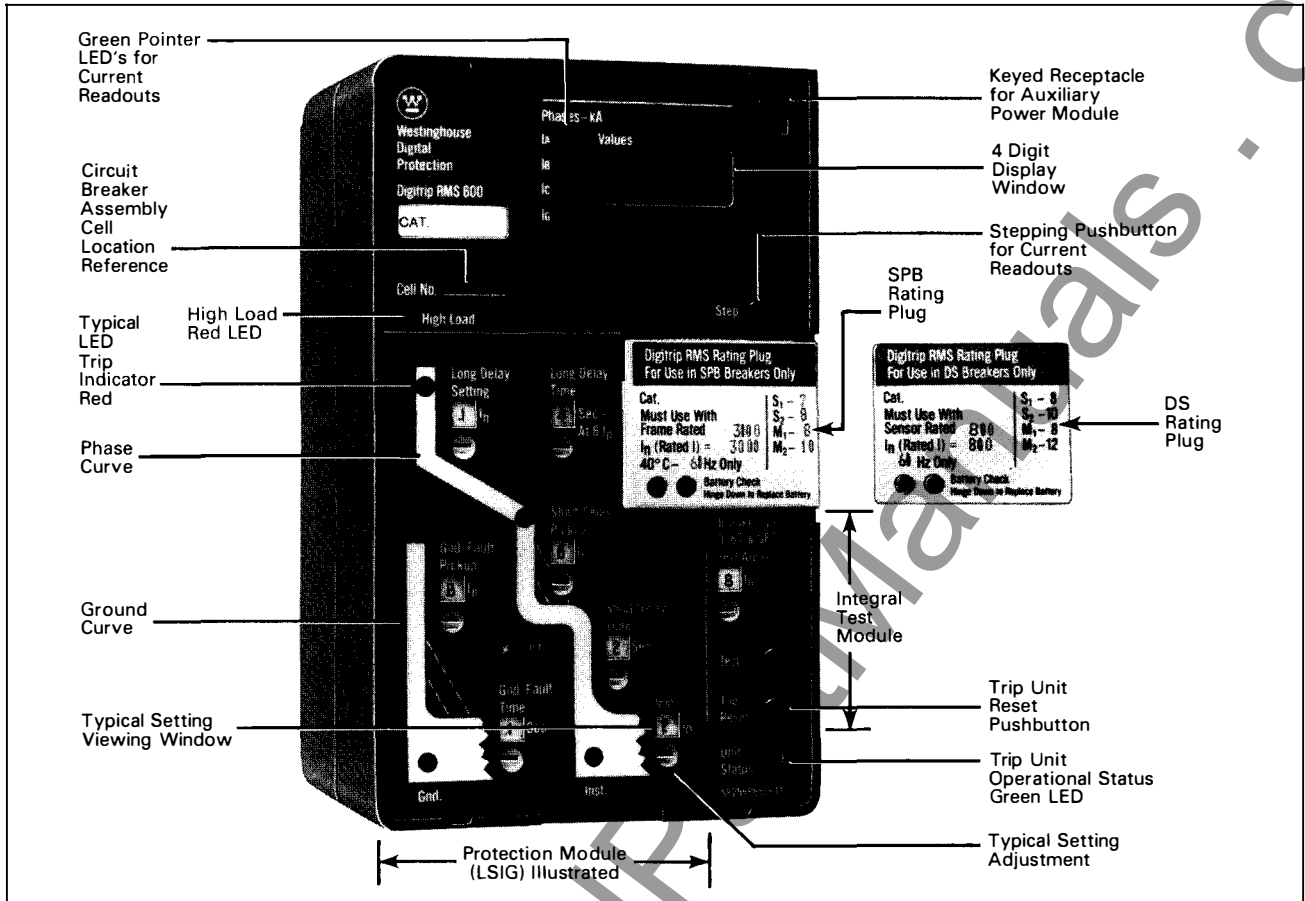

Fig. 1 Typical Digitrip RMS 600 Trip Unit with Rating Plug Installed
The Digitrip RMS 600 Trip Unit, illustrated in Fig. 1, is a micro-processor based type trip unit suitable for use in type SPB Systems Pow-R circuit breakers and types DS and DSL low voltage AC power circuit breakers and Series C® R-Frame molded case circuit breaker.
In addition to the protection function, the Digitrip RMS 600 Trip Unit is equipped with a four-digit, alpha-numeric readout display, three phase and one ground (when supplied) current pointer green LEDs along with a stepping pushbutton as illustrated in Figs. 1 and 2. A Power/Relay module is included to provide control power for operating the readout display and internally mounted signal relays. The signal relays provide contacts for three remote mode of trip indicators (long delay, short circuit, ground fault) and a High-Load remote alarm.
The Digitrip RMS 600 Trip Unit provides three basic functions: Protection, Information and Testing. A typical trip unit and rating plug are illustrated in Fig. 1. Individual product instruction leaflets referenced in Sections 9.1 and 9.2 illustrate typical Digitrip RMS Trip Units installed in specific breakers.
Red colored LEDs, as shown in Figs. 1 and 2, also indicate on the face of the trip unit the mode of trip of any automatic trip operation. As indicated in Fig. 2, each LED is strategically located in the related segment of the Time-Current curve depicted on the face of the trip unit. The mode of trip is identified by the segment of the Time-Current curve in which the LED is turned "On".
A green colored battery check, LED and test pushbutton, as shown in Figs. 1 and 5, are provided to check the status of the battery.
A green colored LED, as shown in Fig. 1, indicates the operational status of the trip unit. With external control power available at the Power/Relay module (or via the external Auxiliary Power module during bench testing operations), the green LED will flash "On" and "Off" once each second. A flashing green LED is an indication of a properly operating trip unit.
A red colored LED, as shown in Fig. 1, indicates that the load current through the circuit breaker has reached 85% of the preset value of the Long Delay Setting. The High-Load LED will turn "On" and the High-Load relay, located internally in the Power/Relay module shown in Fig. 4, will pick-up after an approximate 40 second delay. This delay allows the alarm to ride-through a momentary high-load condition thus avoiding nuisance alarms.
The four-digit alpha-numeric readout display window, illustrated in Figs. 1 and 2, serves two basic purposes: instrumentation and mode of trip or trouble indication.
Normal service messages are those that serve the ammeter instrumentation function. In Fig. 1, four green colored LEDs serve a pointer function, i.e., phase A current (I_A), phase B current (I_B), phase C current (I_C) and ground current (I_G). The ground current LED will be included only if integral ground fault protection is included as an integral part of the trip unit protections functions.
1. The Long Delay Trip LED will turn "On" (see Fig. 1)
2. The coded message LDT will appear in the Display Window (see Fig. 1)
2. Depress Stepping Pushbutton twice (see Fig. 1). This action will clear the coded cause of trip message in the Display Window.
3. View value of phase current in Display Window (see Fig. 1) e.g., 1.50 (in kA).
Note: The phase current shown will be that referenced by the Pointer LED (see Fig. 1) that is turned "On," assume "IA". (It may not be the faulted phase).
5. Reset the trip unit by depressing the "Trip Reset" pushbutton (see Fig. 1). All coded messages and current values in the display window, the cause of trip LED and the signal relay in the Power/Relay module will turn "Off".